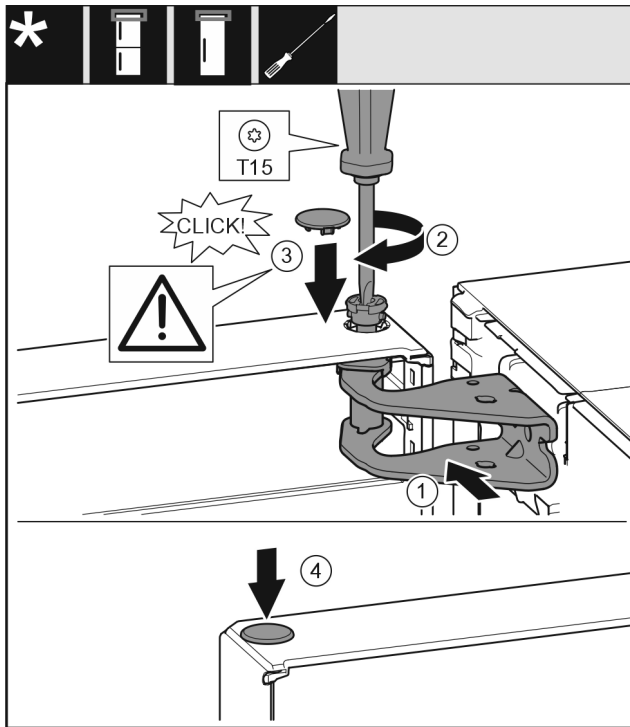

Fig. 13
- ▶ Align the top of the door with opening in the bearing bracket. Fig. 13 (1)
- ▶ Insert the bolt and tighten with a T15 screwdriver. Fig. 13 (2)
- ▶ Fit the protective cover to protect the door: Insert the protective cover and check that it is flush to the door. If not, insert the bolt fully. Fig. 13 (3)
- ▶ Insert the plugs. Fig. 13 (4)